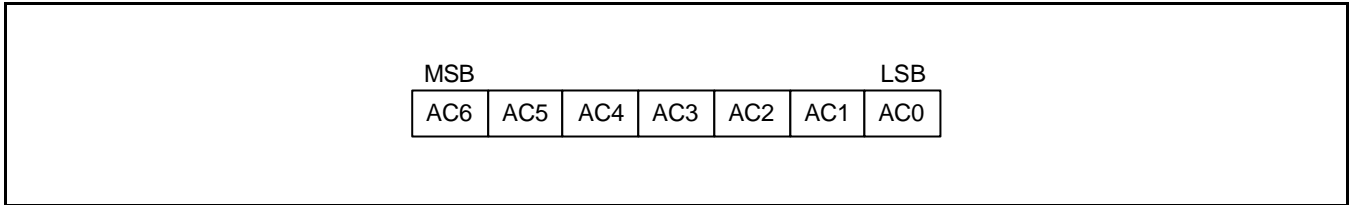

Figure 1. DDRAM Address
DDRAM address is set in the address counter (AC) as a hexadecimal number. (refer to Figure 1)